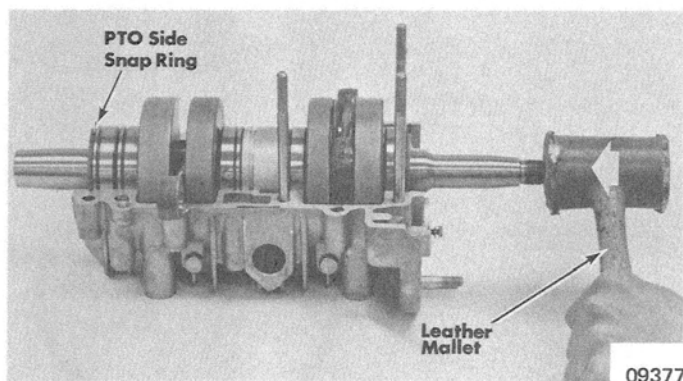

Figure 1. Seating Crankshaft
4. Tap on rewind end of crankshaft with a leather mallet until crankshaft is firmly seated against PTO side snap ring. (Figure 1)